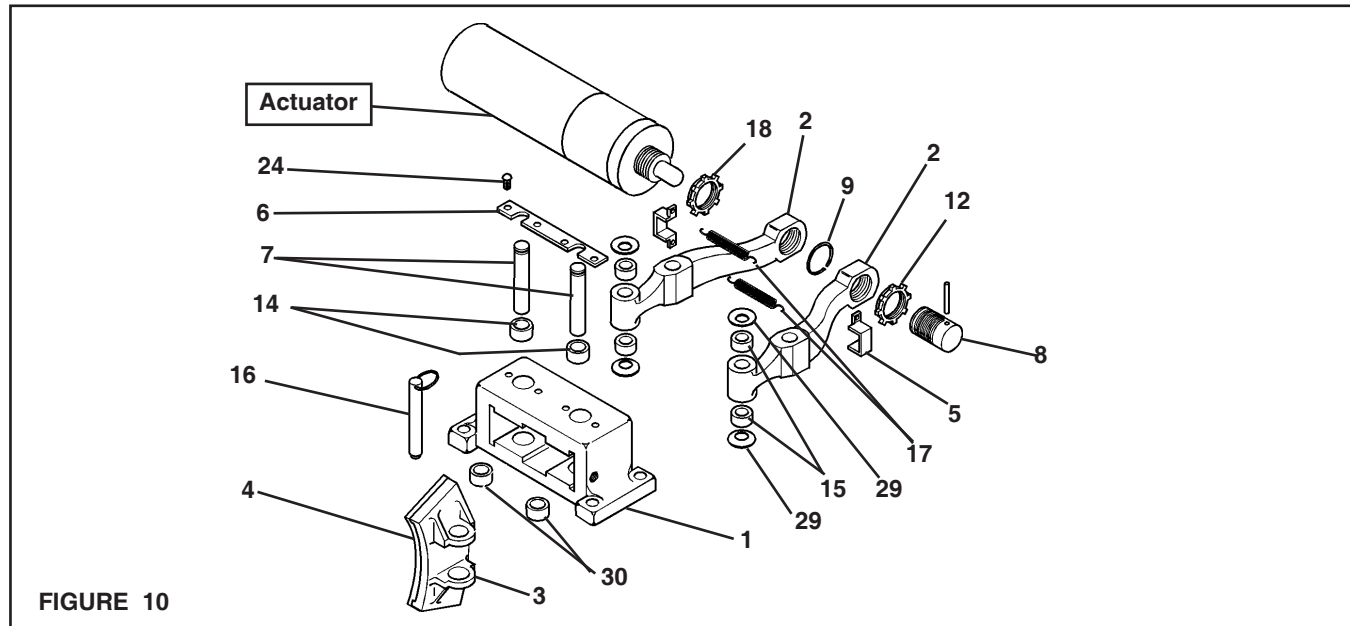

FIGURE 10
1. Loosen the Spanner Nut (Item 12) (See Figure 10).
2. Remove the Actuator from the Brake Arm (Item 2) (See Figure 10).
3. Remove the Extension Springs (Item 17) and Spring Clips (Item 5) from the Brake Arms (Item 2) (See Figure 10).
4. Remove the Detent Pins (Item 16) from the Brake Arms (Item 2), Friction Facings (Item 4), Shoes (Item 3), and Belleville Disc Springs (Item 29) (See Figure 10).
5. Slide the Friction Facings (Item 4) and Shoes (Item 3) off of the Brake Arms (Item 2) (See Figure 10).
6. Remove the four Cap Screws (Item 24) securing the Pivot Pin Retaining Plate (Item 6) (See Figure 10).
7. Remove the Pivot Pin Retaining Plate (Item 6) (See Figure 10).
8. Press the Pivot Pins (Item 7) out of the BD Caliper Brake (See Figure 10).
9. Slide the Brake Arms (Item 2) out of the Main Frame (Item 1) (See Figure 10).
10. Press the old Sleeve Bearings (Items 14 and 30) out of the Main Frame (Item 1) (See Figure 10).
11. Press new Sleeve Bearings (Items 14 and 30) into the Main Frame (Item 1) (See Figure 10).
12. Press the old Sleeve Bearings (Item 15) out of the Shoes (Item 3) (See Figure 10).
13. Press new Sleeve Bearings (Item 15) into the Brake Arm (Item 2) (See Figure 10).
14. Slide the Brake Arms (Item 2) back into the Main Frame (Item 1) (See Figure 10).
15. Install the Pivot Pins (Item 7) (See Figure 10).
16. Install the Pivot Pin Retaining Plate (Item 6) (See Figure 10).
17. Install the four Cap Screws (Item 24) to secure the Pivot Pin Retaining Plate (Item 6) (See Figure 10).
19. Slide the Friction Facings (Item 4) and Shoes (Item 3) over the Belleville Disc Springs (Item 29) and onto the Brake Arms (Item 2); then, install the Detent Pins (Item 16) (See Figure 10).
20. Install the Spring Clips (Item 5) and Extension Springs (Item 17) onto the Brake Arms (Item 2) (See Figure 10).
21. Screw the Actuator back onto the Brake Arm (Item 2) as far as possible (See Figure 10).